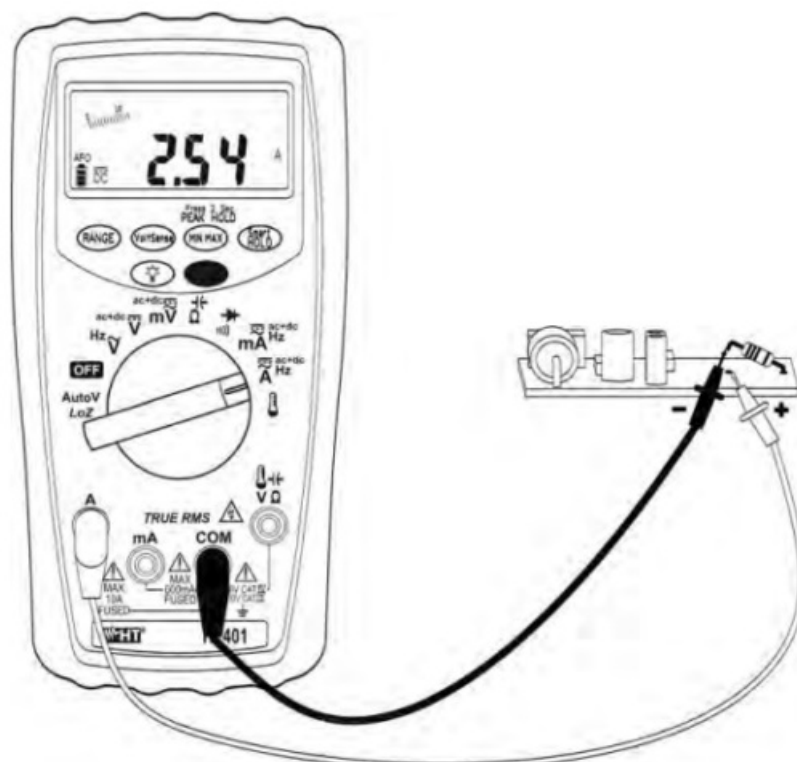

Fig. 5: DC current measurement
6. Connect the red lead and the black lead in series to the circuit whose current you want to measure, respecting polarity and the current direction indicated in Fig. 5
9. When the symbol “-” appears on the instrument’s display, it means that the current has the opposite direction with respect to the connection in Fig. 5